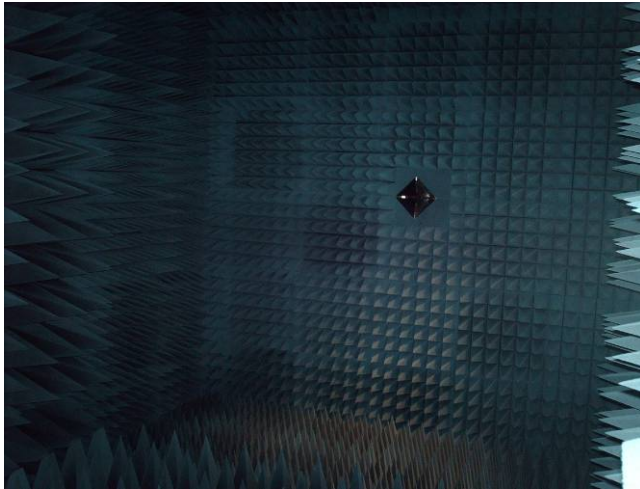

Figure. 3
- A. The 3D chamber provides less than -40dB reflectivity from 800MHz to 6GHz and a 40cm diameter spherical quiet zone. The measurement results are calibrated using both dipoles and standard gain horns (see figure. 3).